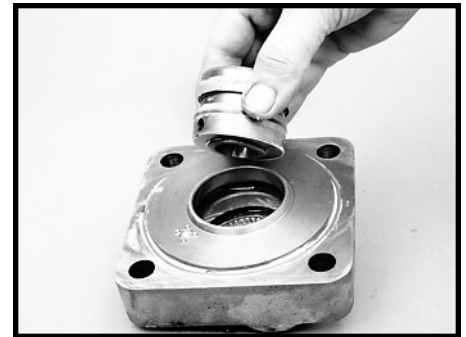
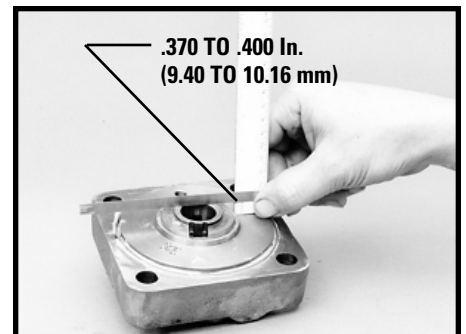

Figure 130
Figure 131
26. Assemble the valve sleeve (14) with attached thrust washer down, into the valve housing (8). SEE FIGURE 130. When the valve sleeve is in place, it should measure between .370 and .400 inches (9.40-10.16 mm) above the face of the valve housing to the end of the valve sleeve nose. SEE FIGURE 131.